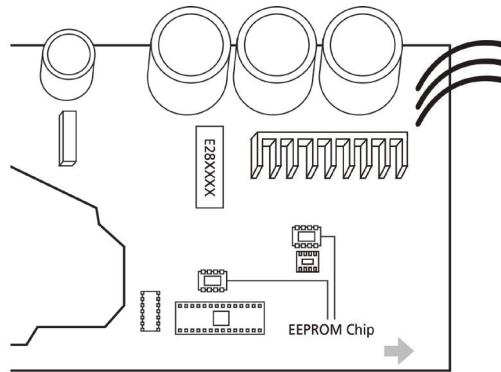

Fig. 49 — EEPROM chip on the outdoor PCB
**REMARKS:** A read-only memory, whose contents can be erased and reprogrammed using a pulsed voltage. Figure 49 shows the location of the EEPROM chip on the outdoor PCB.